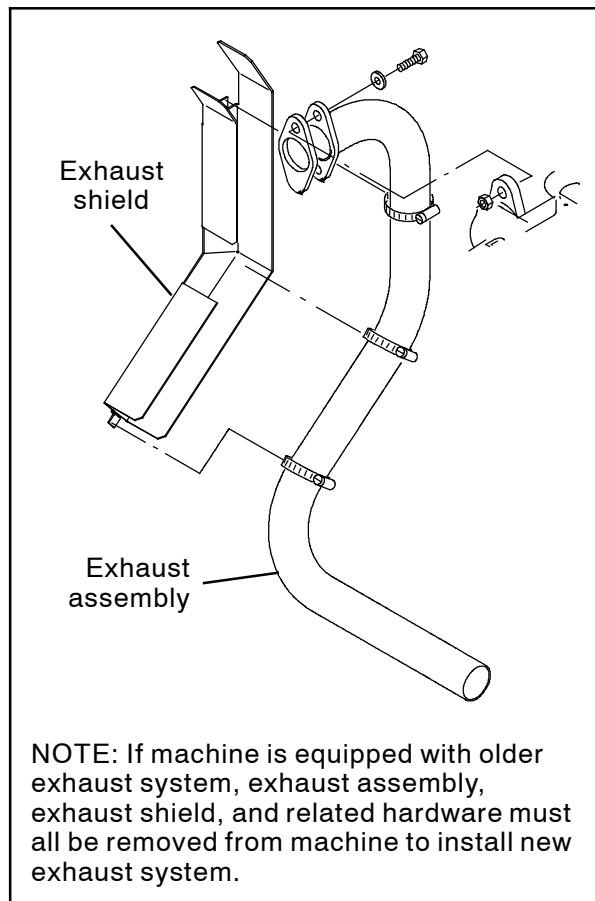
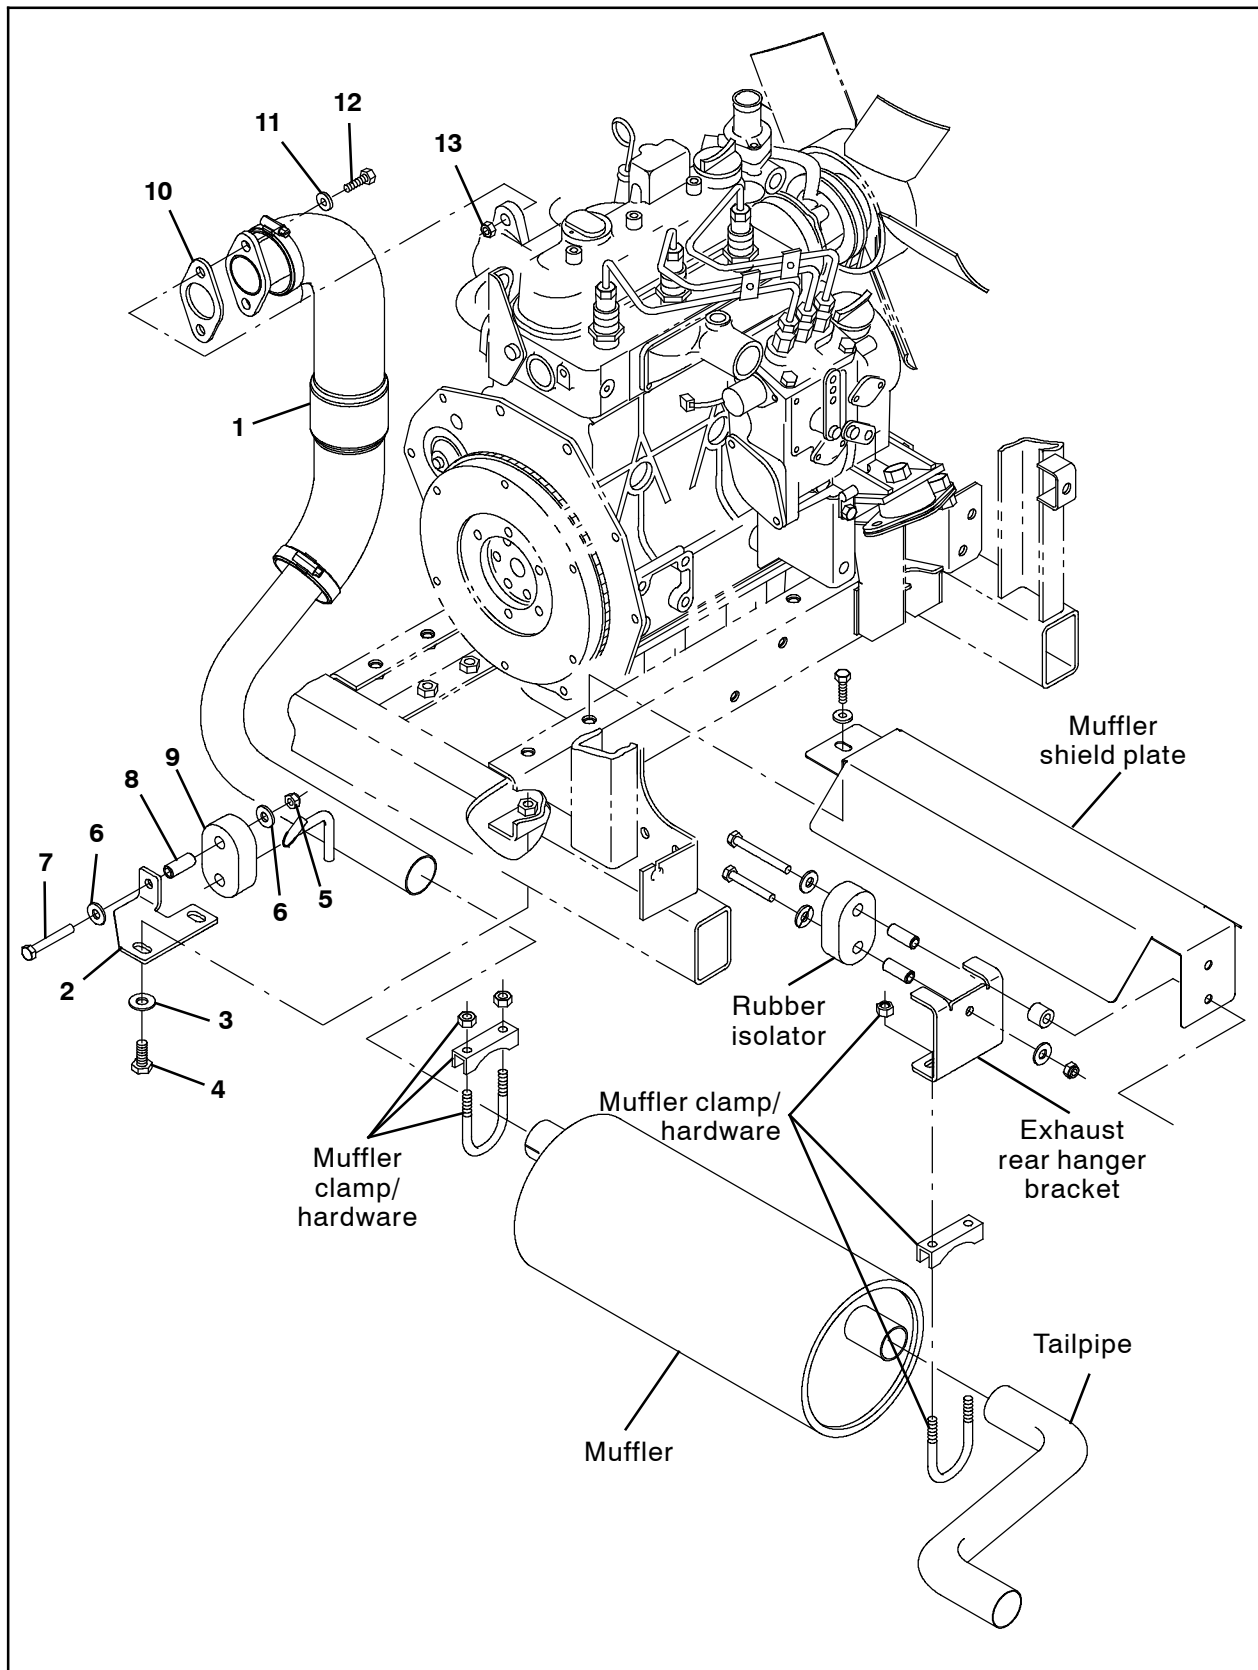

FIG. 1
FIG. 2
2. Remove the existing exhaust assembly (older machines, exhaust assembly and exhaust shield) from the machine. Discard the removed exhaust assembly components and all hardware used to secure these items to the machine. (Fig. 1/Fig. 2)
3. Clean any remaining residue from the removed manifold gasket from the engine. (Fig. 2)
4. Use two M10 hex screws (12), two flat washers (11), and two M10 hex nuts (13) to install the new exhaust assembly (1) and exhaust manifold gasket (10) onto the engine. (Fig. 2)
5. Use one M8 hex screw (7), two flat washers (6), and one M8 hex nut (5) to install the sleeve (8) and rubber isolator (9) onto the front exhaust bracket (2). (Fig. 2)
6. Insert the hook on the exhaust assembly (1) into the bottom hole in the rubber isolator (9). (Fig. 2)
7. Connect the exhaust assembly (1) to the muffler. (Fig. 2)
8. Use two M10 hex screws (4) and two flat washers (3) to install the front exhaust bracket (2) onto the machine. (Fig. 2)
9. Tighten both previously loosened muffler clamps to secure the tailpipe/muffler/exhaust assembly to the machine. (Fig. 2)